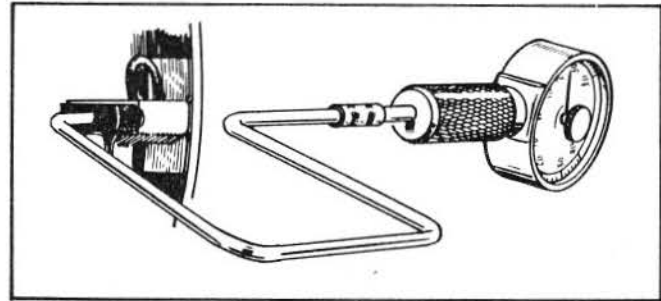

FIGURE 21. TESTING BRUSH SPRING TENSION
7. Brush Spring Inspection (Spec A only): Check brush spring tension as shown in Figure 21. If spring tension reads 17 to 25 ounces, the spring is satisfactory.